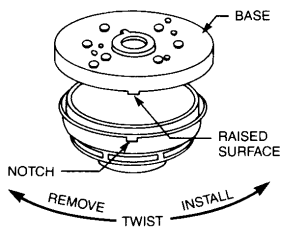

Figure 3
1. Align notch in detector cover to raised surface on outer ring of base (See Figure 3).